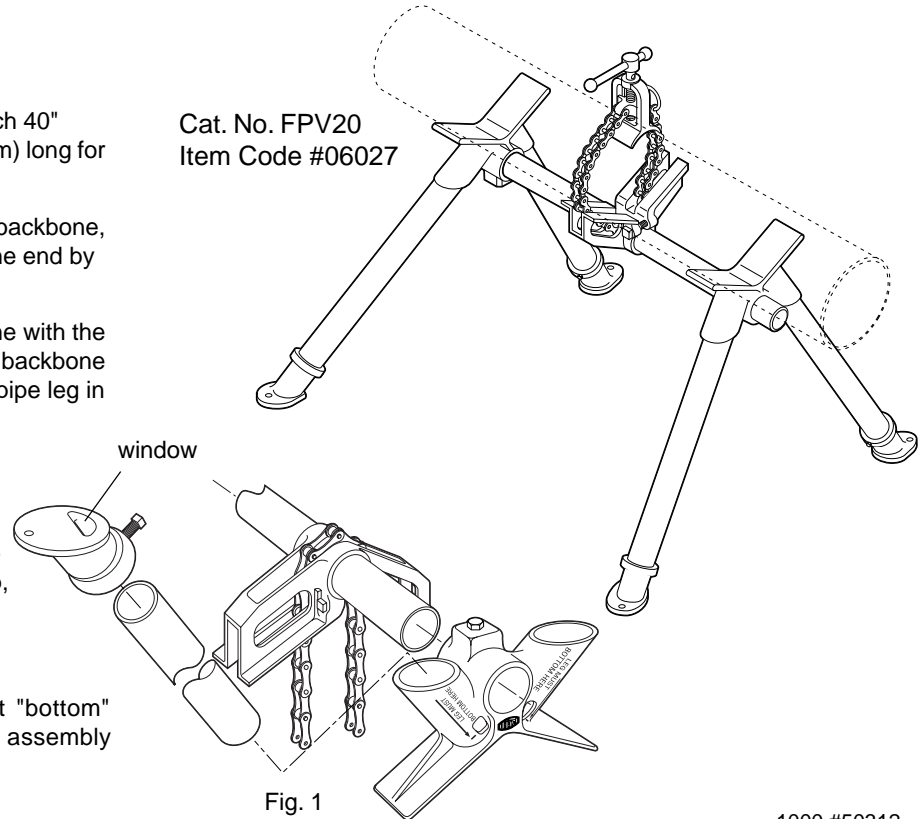

Fig. 1
4. Make sure that each pipe leg bottoms in the socket (see window). Tighten the bolt in each leg frame, to clamp the entire assembly together. Doing this upside down with the "V"s resting on the floor, the two leg frames and the pipe clamp automatically line up, Fig. 1.